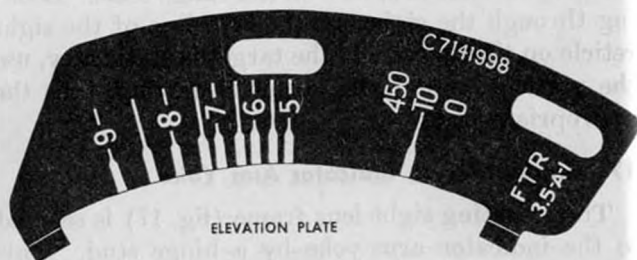

Figure 16. Ladder type reticle pattern and elevation plate.
a. A range scale is engraved on the elevation plate (fig. 16). It is used in conjunction with the reflecting sight assembly (tree-type reticle pattern), and it has a zero setting notch marked "0 to 450." It also has notches numbered from 5 to 9. A spring-loaded projection on the indicator arm pointer engages these notches, holding it at the desired range setting.